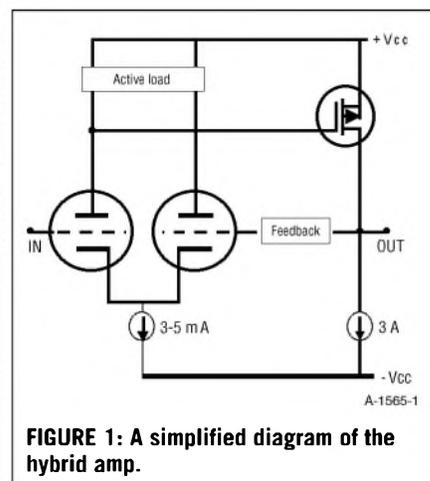

FIGURE 1: A simplified diagram of the hybrid amp.
My intention in designing this hybrid amplifier (Fig. 1) was to combine the
Figure 1 shows the HP and LP filter-section response curves derived from equation (2) when a 1kHz, third-order Butterworth filter is selected for the low-pass section. The decibel scale is 5dB per division in Fig. 1. Observe that the HP response has a peak of 4dB at the LP -3dB point and that the HP section is down 3dB at approximately 350Hz. Figure 2 shows a similar result when the HP filter is a 1kHz, third-order
FIGURE 1: Constant-voltage crossover HP and LP sections using a third-order Butterworth low-pass filter; 0—HP amplitude response, 1—HP phase response; scale: 5dB/division.